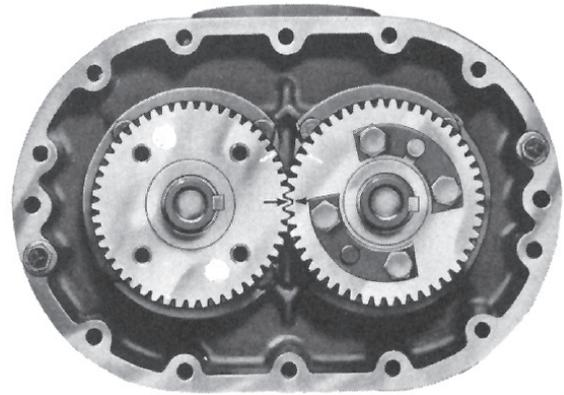

Figure 8-2 – Keyways in line and timing marks matched
9. Align the timing marks (**See Figure 8-2** on timing gears).